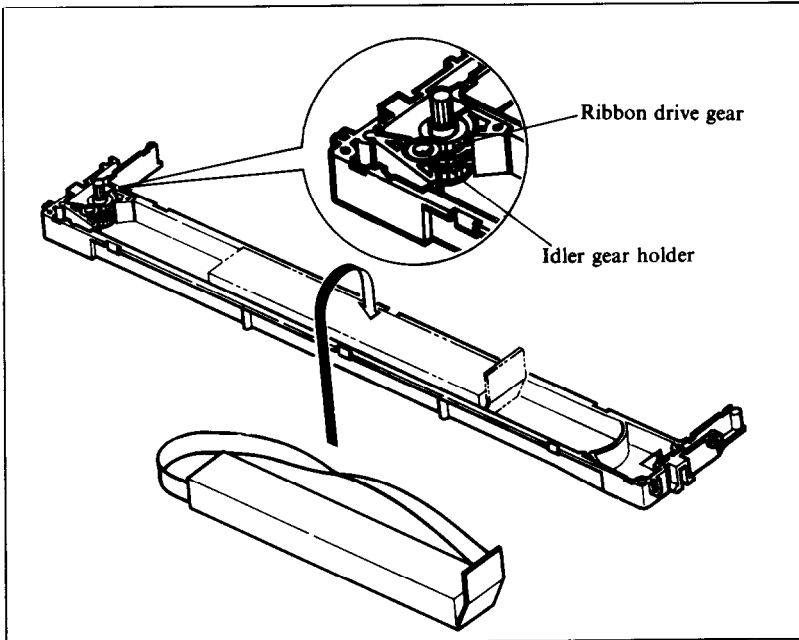

Figure 8-2. Replace the ribbon sub-cassette.
2. After opening the cartridge, take a moment to notice how the ribbon is threaded. Then press a finger against the idler gear holder (it is held in position by spring pressure), and make enough space to remove the ribbon from between the two gears. See Figure 8-2.
4. Take the new ribbon and holder out of the wrapper, remove the adhesive tape on the joint on the holder, and place it into the cassette as shown in Figure 8-2.